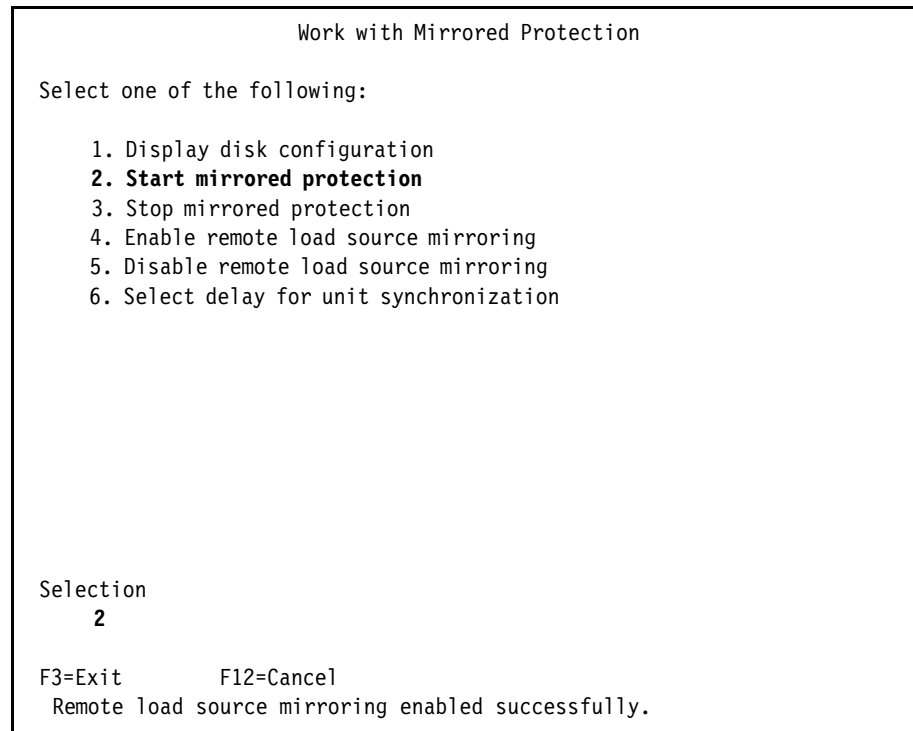

Figure 16-51 IBM i DST Work with mirrored protection
9. After pressing Enter to confirm enabling remote load source mirroring, we select option **2. Start mirrored protection** as shown in Figure 16-51.